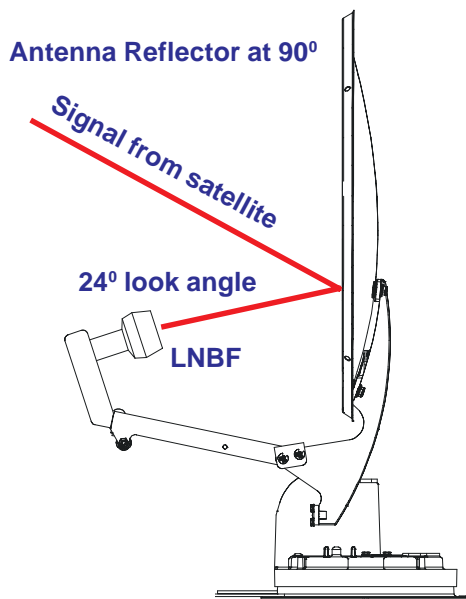

FIGURE 8
1. Be sure you have a clear line of sight. The signal from the satellite(s) **WILL NOT** pass through trees, buildings, mountains etc. Remember the antenna has a 24° offset, this means that when the antenna is straight up and down, (90°) it is looking 24° into the sky. See Figure 8.